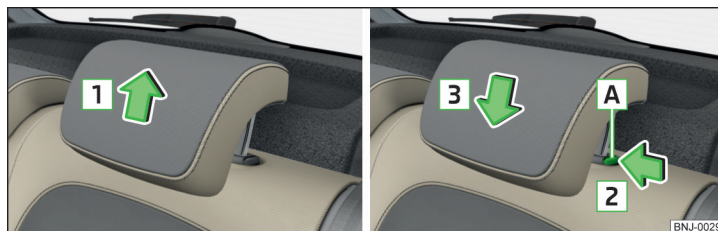

Fig. 55 Head rests: move up / move down
- » Push the headrest in the direction of arrow **1** » Fig. 55.
- » Press the locking button **A** in the direction of the arrow **2** and hold » Fig. 55.